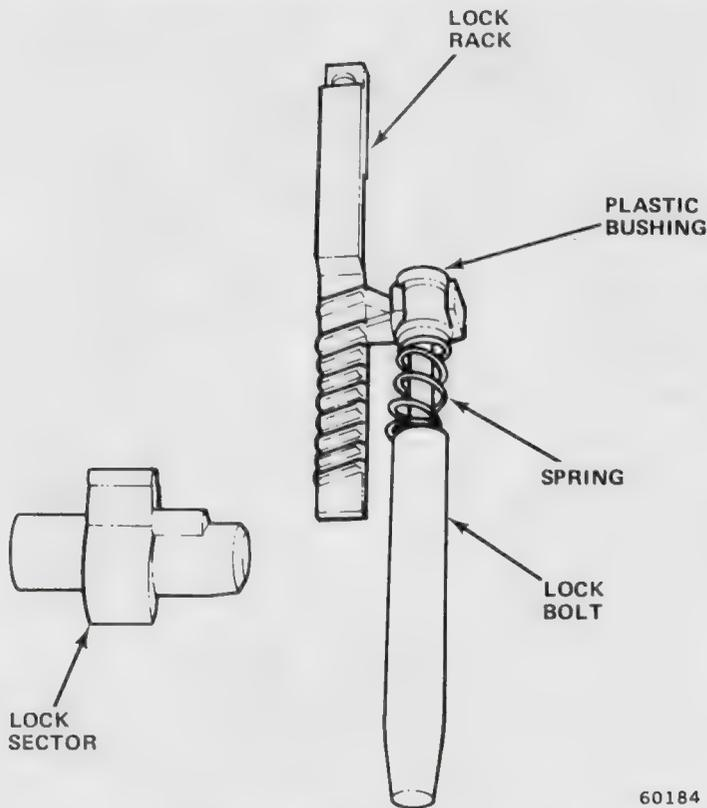

Fig. 2H-20 Lock Bolt, Lock Rack, and Sector
(8) Assemble lock bolt and rack (fig. 2H-20) and install assembly in bowl.